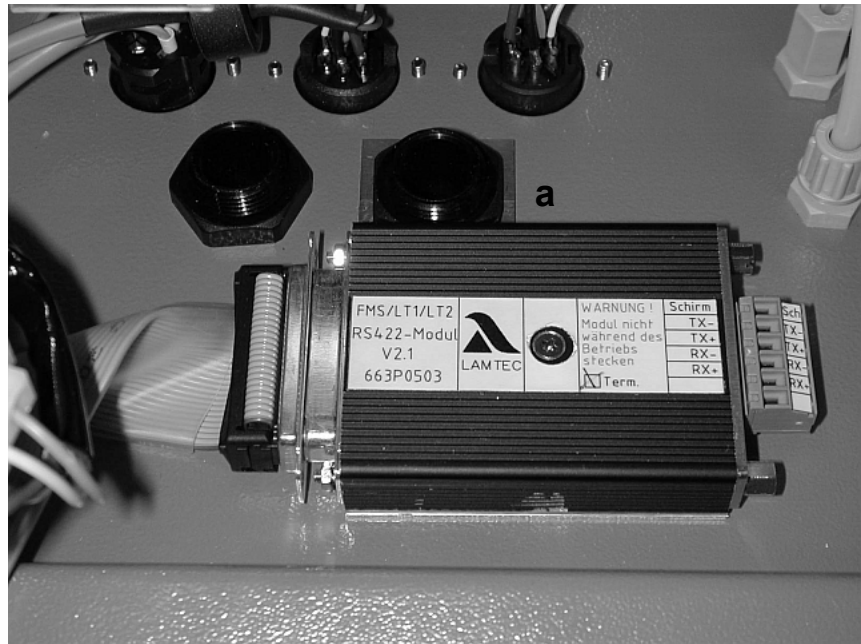
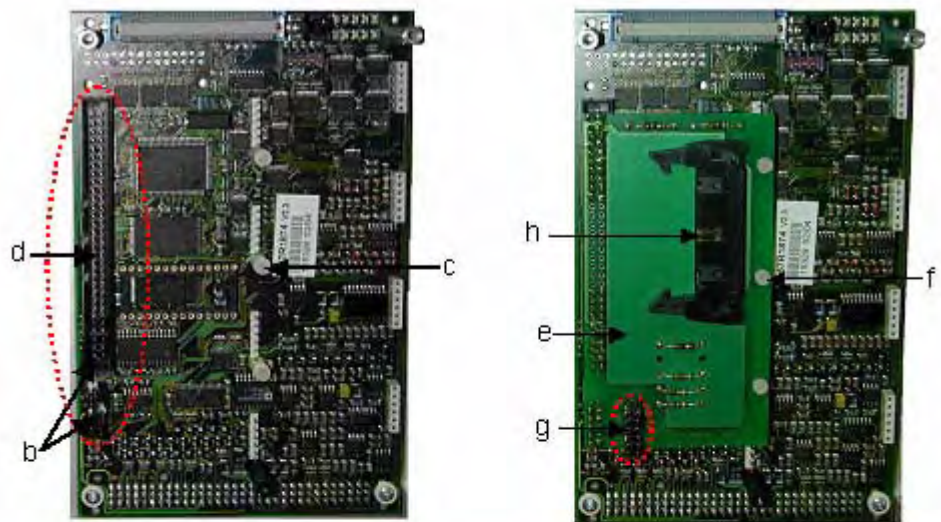

Fig. 10-9:
Fig. 10-10:
4. Plug the connection cable (5) into the RS422 module and route it under the front plate to the front side of the LAMBDA TRANSMITTER P. Then close the front plate.
6. Remove the jumpers (x 9) from the processor board (b). See Fig. 10-9.
8. Plug the adapter board (2) into the socket of the processor card (d) (e).
9. Screw the adapter board (2) back together with the spacer (f).
11. Connect the RS422-module connection cable (5) to the adapter board (2)(h). See Fig. 10-10.